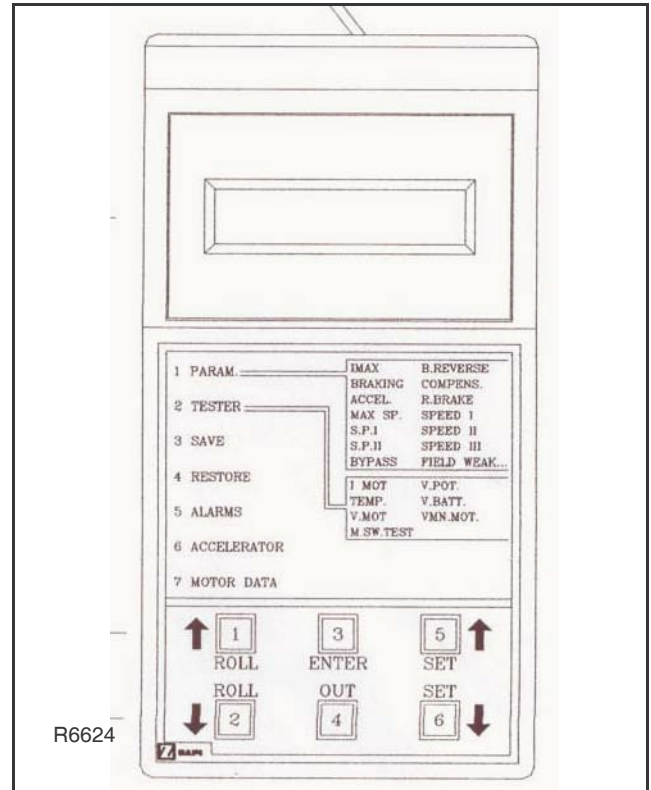

Figure 4-2 Zapi Handset
2. Press the ROLL down button (1, Figure 4-2) and the ENTER button (3) at the same time to enter the MAIN MENU.
3. Press the ROLL down button (2) or the ROLL up button (1) to find the ALARMS display.
4. Press the ENTER button (3) to view the alarms.
5. Press the OUT button (6) to exit the alarms.
3. Press the ROLL down button (2) or the ROLL up button (1) to find the TESTER display.
4. Press the ENTER button (3) to view the tests.
6. Press the OUT button (6) to exit the tests.
2. Press the ROLL up button (1, Figure 4-2) and the SET up button (5) at the same time to enter the CONFIG MENU.
3. Press the ROLL down button (1) or the ROLL up button (2) to find the SET OPTIONS display.
4. Press the ENTER button (3) to view the options.
5. Press the ROLL down (2) or the ROLL up button (1) to find the option to be changed.
6. Press the SET up button (5) or the SET down button (6) until the desired value setting is reached. The option is now set at the desired value.
7. Press the OUT button (4) to exit the options.